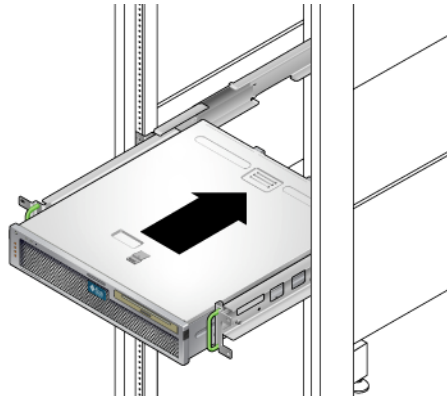

FIGURE 3-20 Sliding the Server Onto the Adjustable Rails
- 11. Lift the server into the rack and slide the server onto the adjustable rails (FIGURE 3-20).**